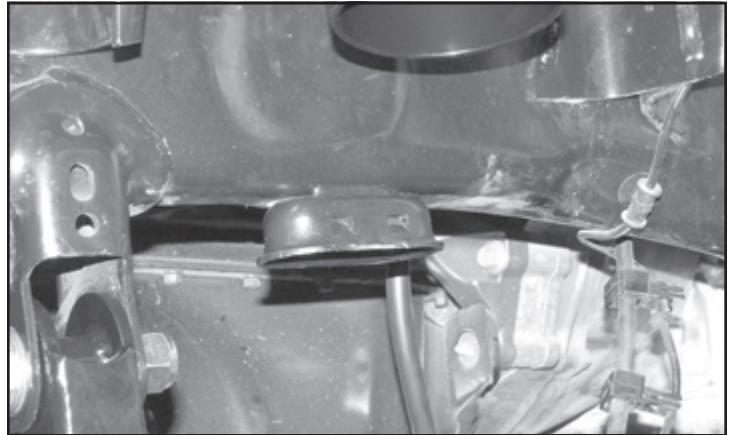

FIGURE 20 - STEP 29
29. Locate and remove the factory rubber bump stop. **SEE FIGURE 20**